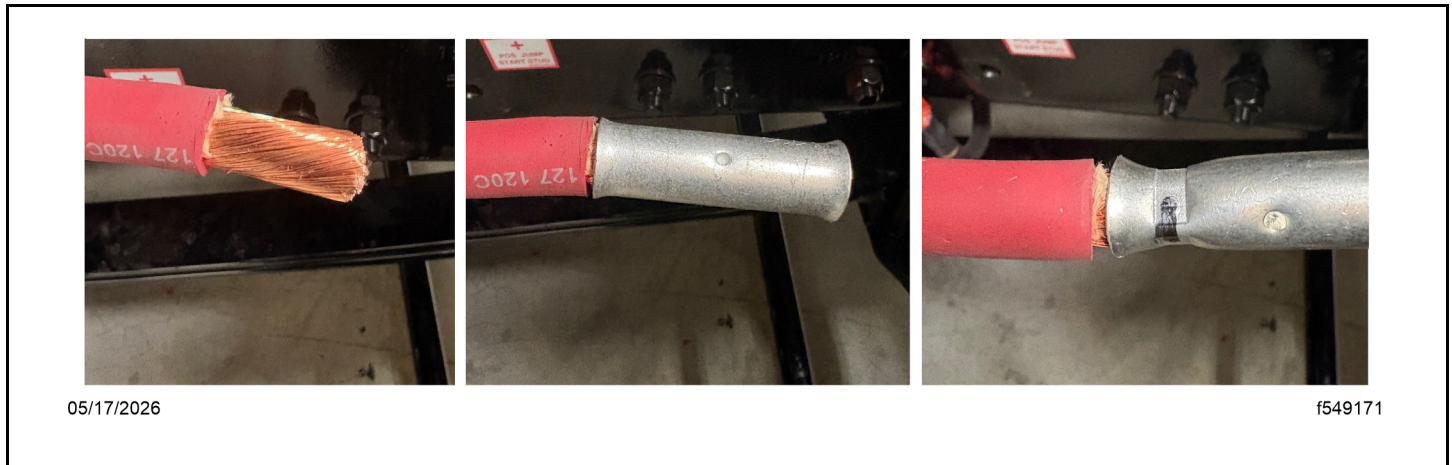

Fig 38, Installing and Crimping the Terminal
21. Crimp the butt connector terminal (PHM 8 2980) on the cable routed to the cab. See Fig. Fig. 38.